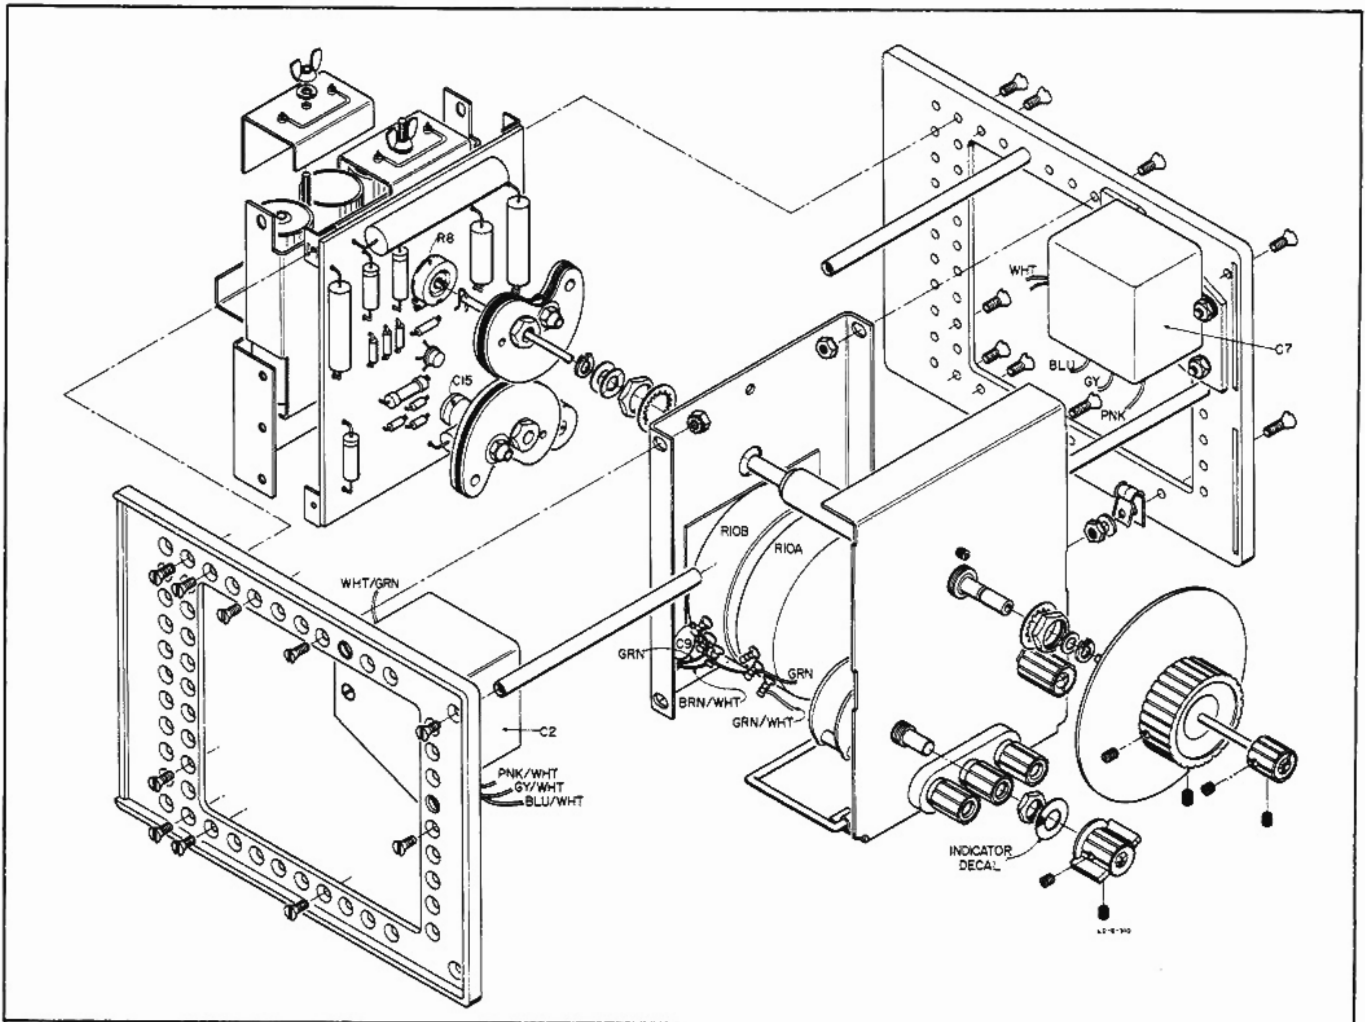

Figure 5-4. Model 204B, Exploded View
5-11. When repairing the Model 204B, use the exploded view, figure 5-4, as an aid to identifying parts.
- m. Set FREQ. to 56 (560 kc), and adjust C15 (figure 5-4) to obtain a 560-kc output. If necessary, change the value of C14 for proper range of C15.